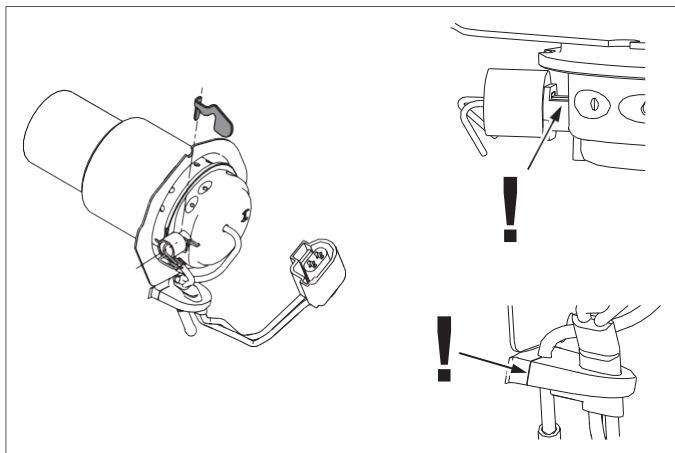
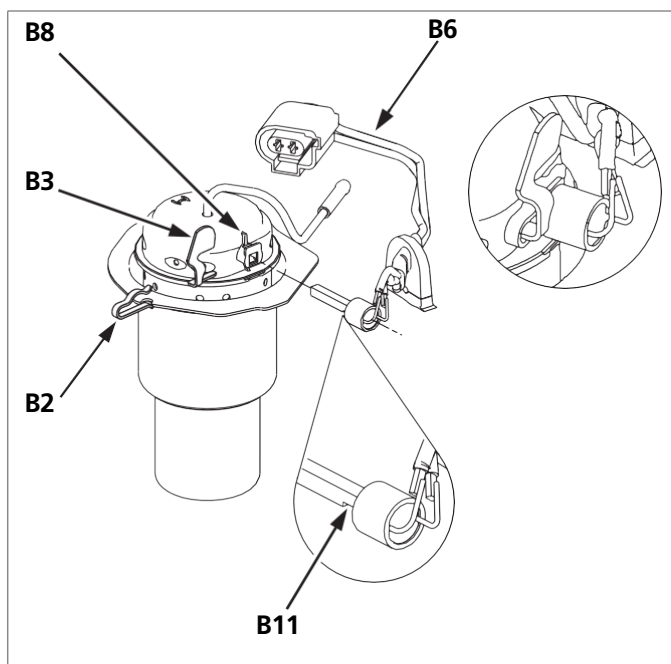

Fig. 910 Installing cooling flag
Fig. 913 Installing glow plug
Install glow plug (B4) with groove (B11, below ceramic) toward combustion pipe (see detail Fig. 913).
3. Hold cooling flag (B3) in groove (B11) with hand on glow plug dome (B8) (see Fig. 910 and Fig. 913).
4. Slide retaining spring of glow plug (B2) over cooling flag (B3) and glow plug dome (B8) (for orientation of retaining spring B2, see Fig. 913).